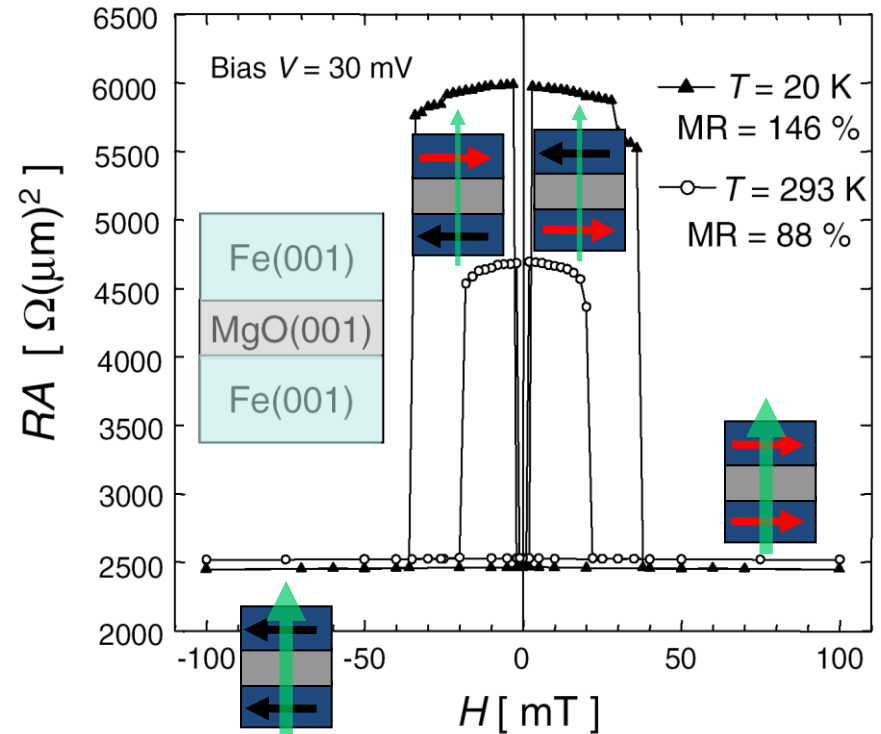

Fig. 3. Magnetoresistance curves for Fe(001)/MgO(001)(20 Å)/Fe(001) MTJ at $T = 293$ and 20 K. The MR ratios were 88% and 146%, respectively.
FIG. 3. The ratio of orbital versus spin moment M_L/M_S as a function of film thickness d . The open circles give the theory taken from Table I. The full squares show the experiment. The solid line is a fit using Eq. (1) with the parameters given in the last row of Table I. Note that the fit was performed only for $d \geq 3$ ML, corresponding to well-defined, epitaxial growth. The surface, interface, and bulk contributions used in Eq. (1) are schematically shown in the inset.
FIG. 3. Orbital magnetic moment of Co perpendicular to the film plane as determined from the MCXD and XAS spectra of Fig. 2 using the MCXD orbital sum rule. The solid curve represents a fit to the data based on the model shown in the inset. The dashed curve denotes an extrapolation for a supposed case of all fcc Co layers.